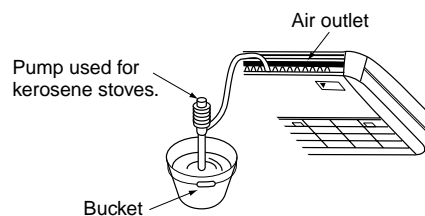

Fig. 25
(2) Confirm that smooth drainage is achieved after the piping work.
- Add 600 cc of water in the drain pan from the air outlet for confirming drainage. **(Refer to Fig. 25)**